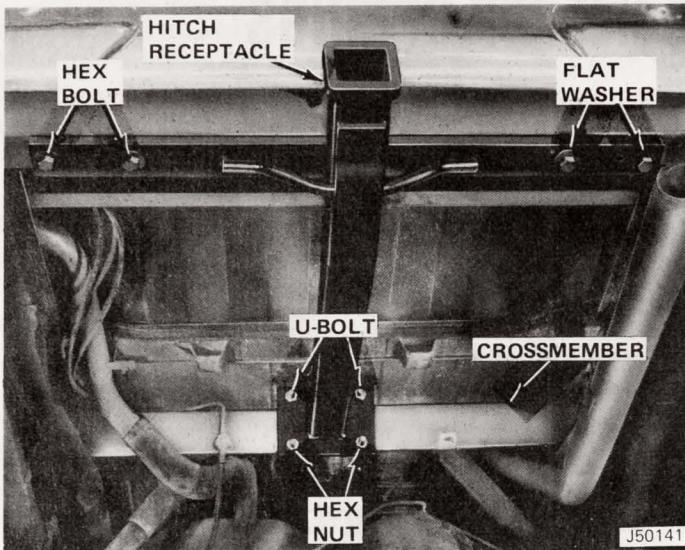

Fig. 8-3 Class III Equalizing Hitch Receptacle Installed
- (1) Remove spare tire and mounting brackets from vehicle.
- (2) Position hitch receptacle on vehicle (fig. 8-3). Be sure that hitch is centered and that mounting holes are aligned.
- (3) Install U-bolts, lockwashers, and hex nuts. Tighten nuts to 75 foot-pounds torque.
- (4) Install 1/2-13 x 1-3/4-inch hex-head bolts, flat washers, lockwashers, and hex nuts. Tighten nuts to 75 foot-pounds torque.
- (5) Install spare tire inside vehicle.